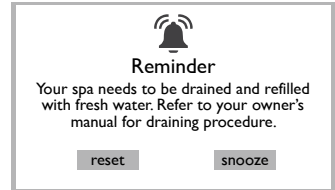

Figure 12.6j
4. When the timer expires, a message will appear on the control panel display, Figure 12.6j. The water must be drained and replaced with fresh water. Follow the instructions above to reset the timer. If you tap “snooze” the message will clear but the error icon ▲ will display and the reminder screen will reappear in 10 days. Refer to Section 13.1, page 50, for filter location.